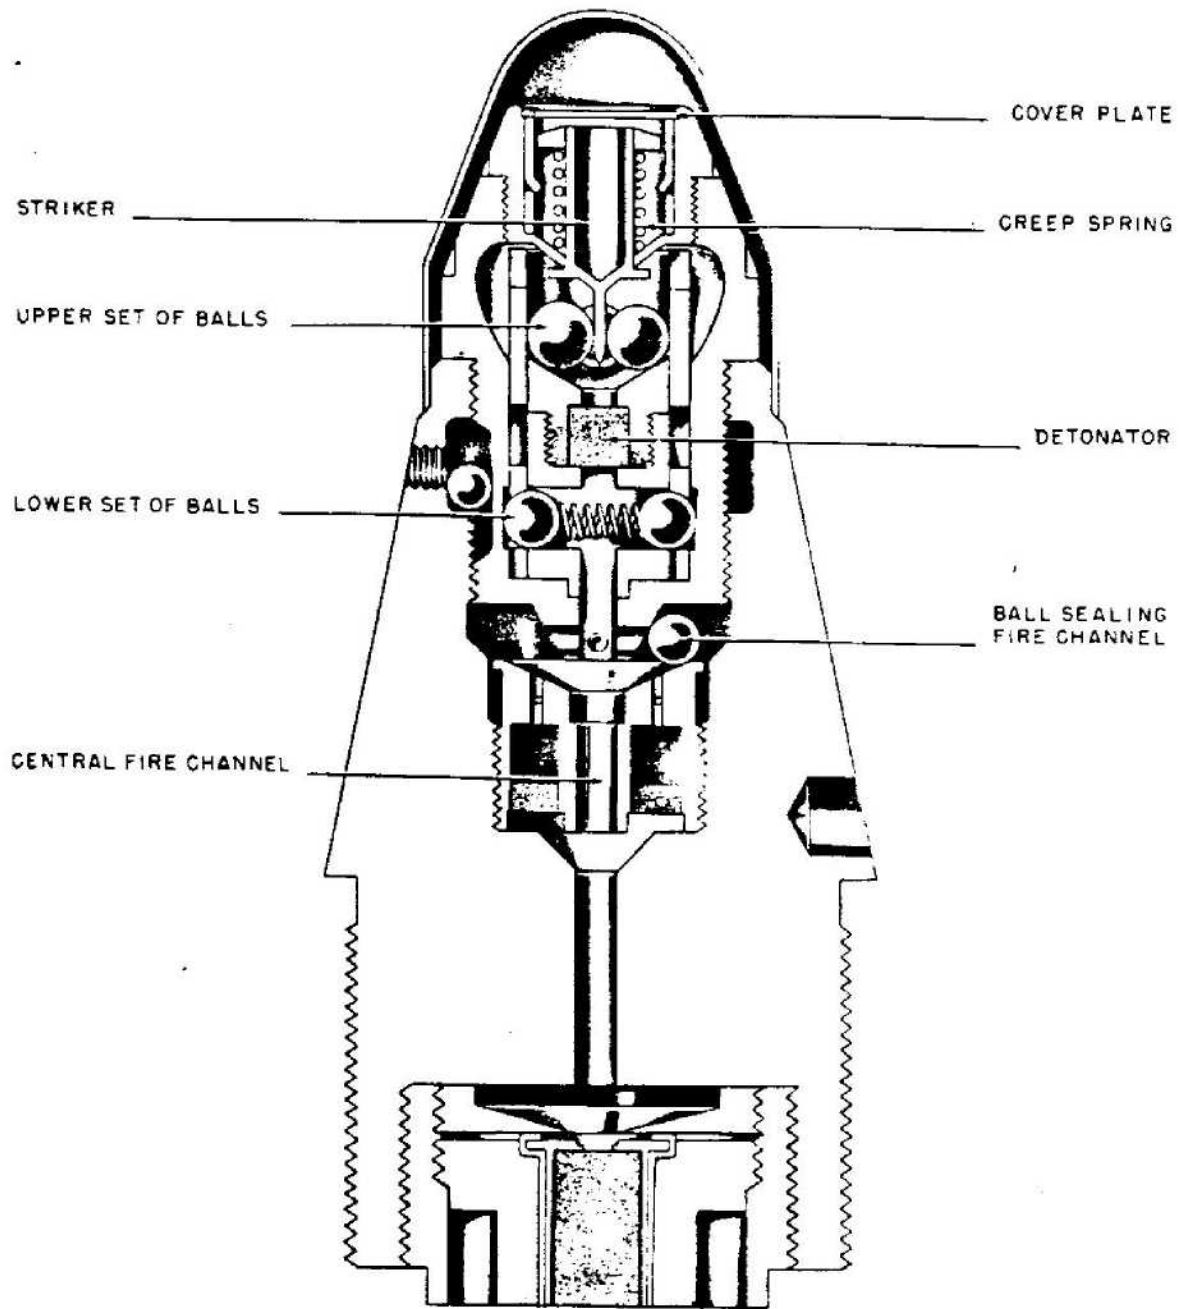

Figure 589—Skoda Percussion Fuze
**EMPLOYMENT:** This fuze was found in a 100-mm projectile. Fragments of this type of fuze were also found with splinters which appear to be from 75-mm and 83.5-mm projectiles. (See fig. 589.)